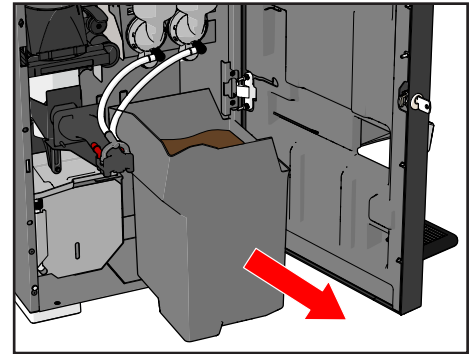

Figure 35.
16. Remove and empty the waste bucket (see Figure 35).